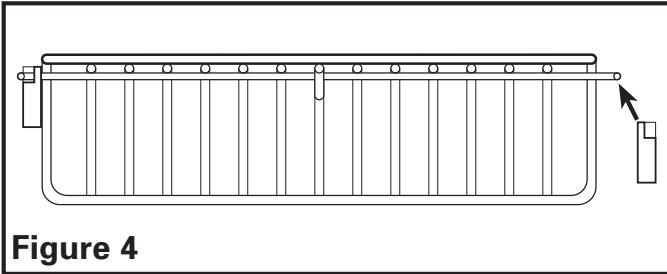

Figure 4
4. Insert one side of the shelf into the bracket that was just installed onto the back splash, then install the opposite bracket to the opposite side of the shelf and connect it to the back splash with the provided screws (**Figure 4**).